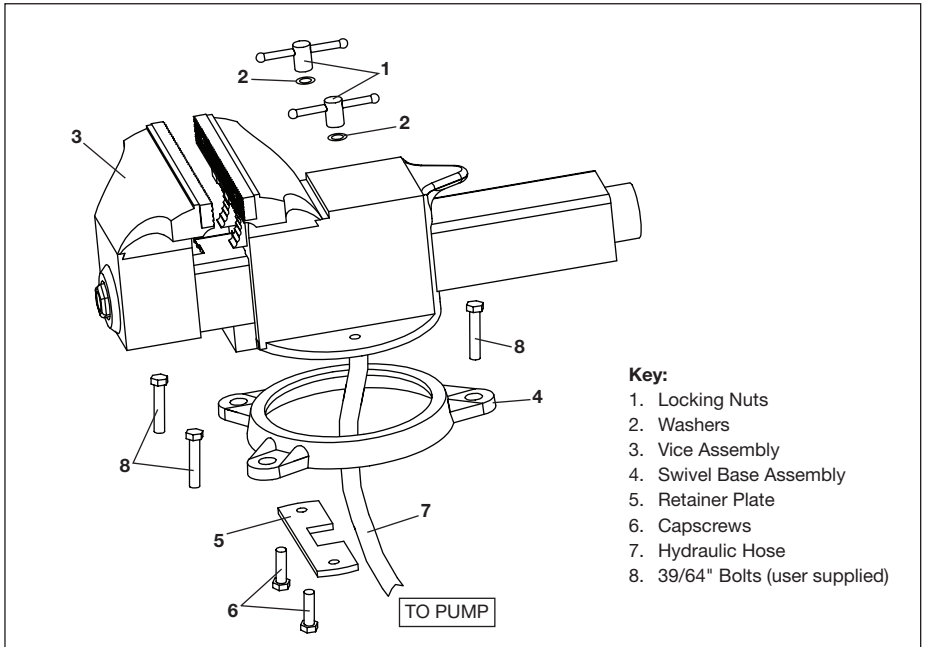

Figure 3 - Vice Assembly and Installation.
1. Assemble the vice to the swivel base as shown in Figure 3. Tighten the locking nuts hand tight.